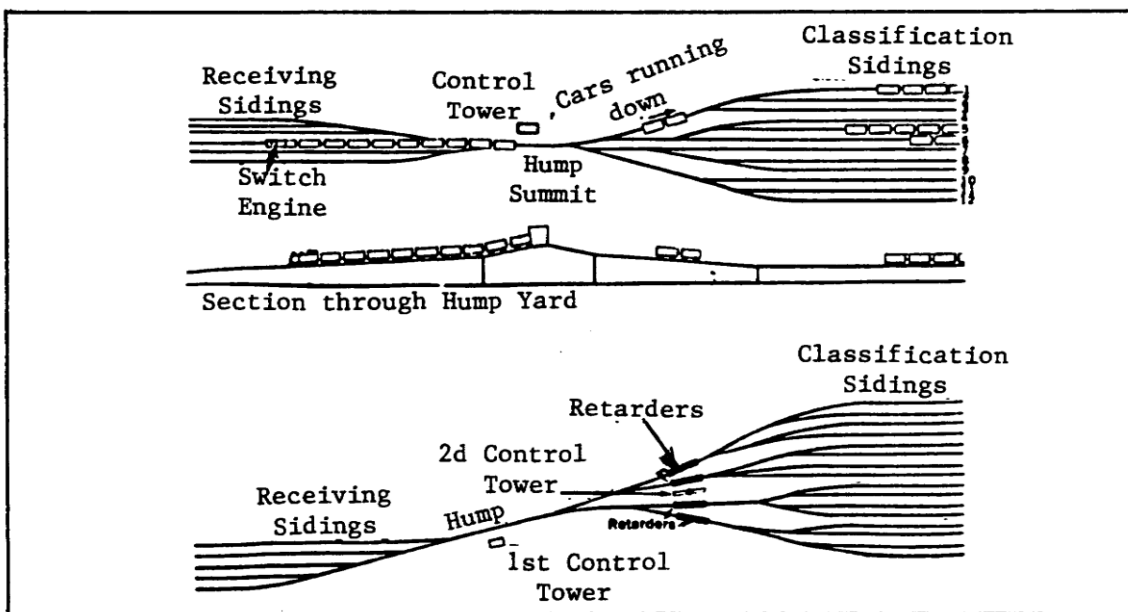

Figure 1-7. Traffic Flow-Gravity or Hump Marshaling Yard.
b. Retarders are long metal bars that slow down rolling stock entering the classification yard. The retarders are always closest to the receiving yard in a marshaling yard configuration (Figure 1-7). The traffic flow can be determined by the location of the retarders in the classification yard near the choke point adjacent to the receiving yard. Furthermore, a switch engine is in the receiving yard pushing cars to the hump summit.